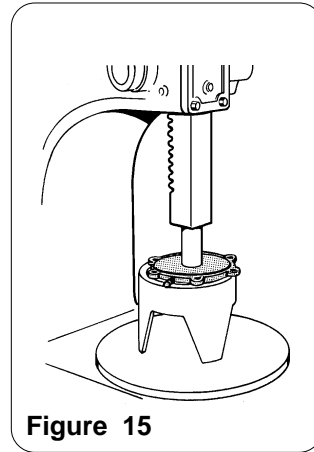
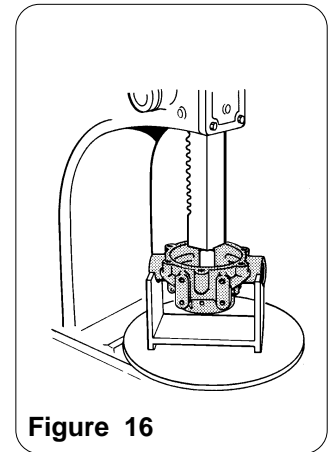

Figure 15
Figure 16
8. To remove the Ball Bearing – place the End Plate in a Endplate Support Fixture with the front of the End Plate down (See Figure 15). Center Bearing Support Tool and slowly press Bearing out of Casting. Repeat procedure to remove Bearing from Pump Body (See Figure 16) using Body Support Fixture.